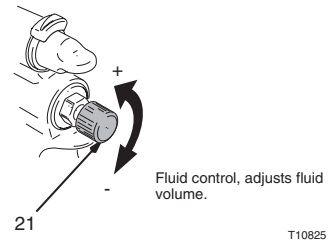

FIG. 4
- 3 If further gun fluid adjustment is needed, turn fluid adjustment knob (21) clockwise to reduce volume of fluid output. Fig. 4.